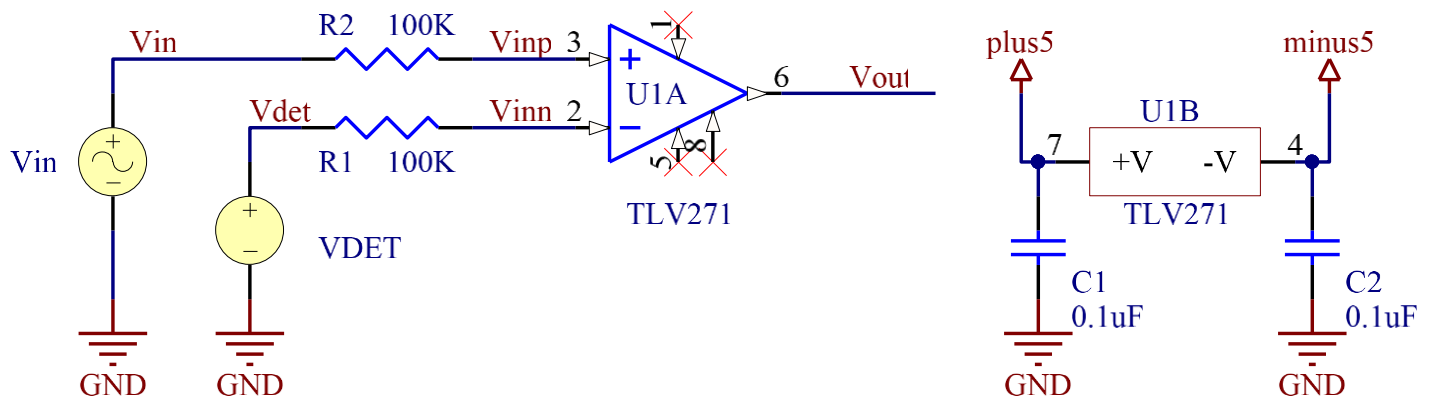
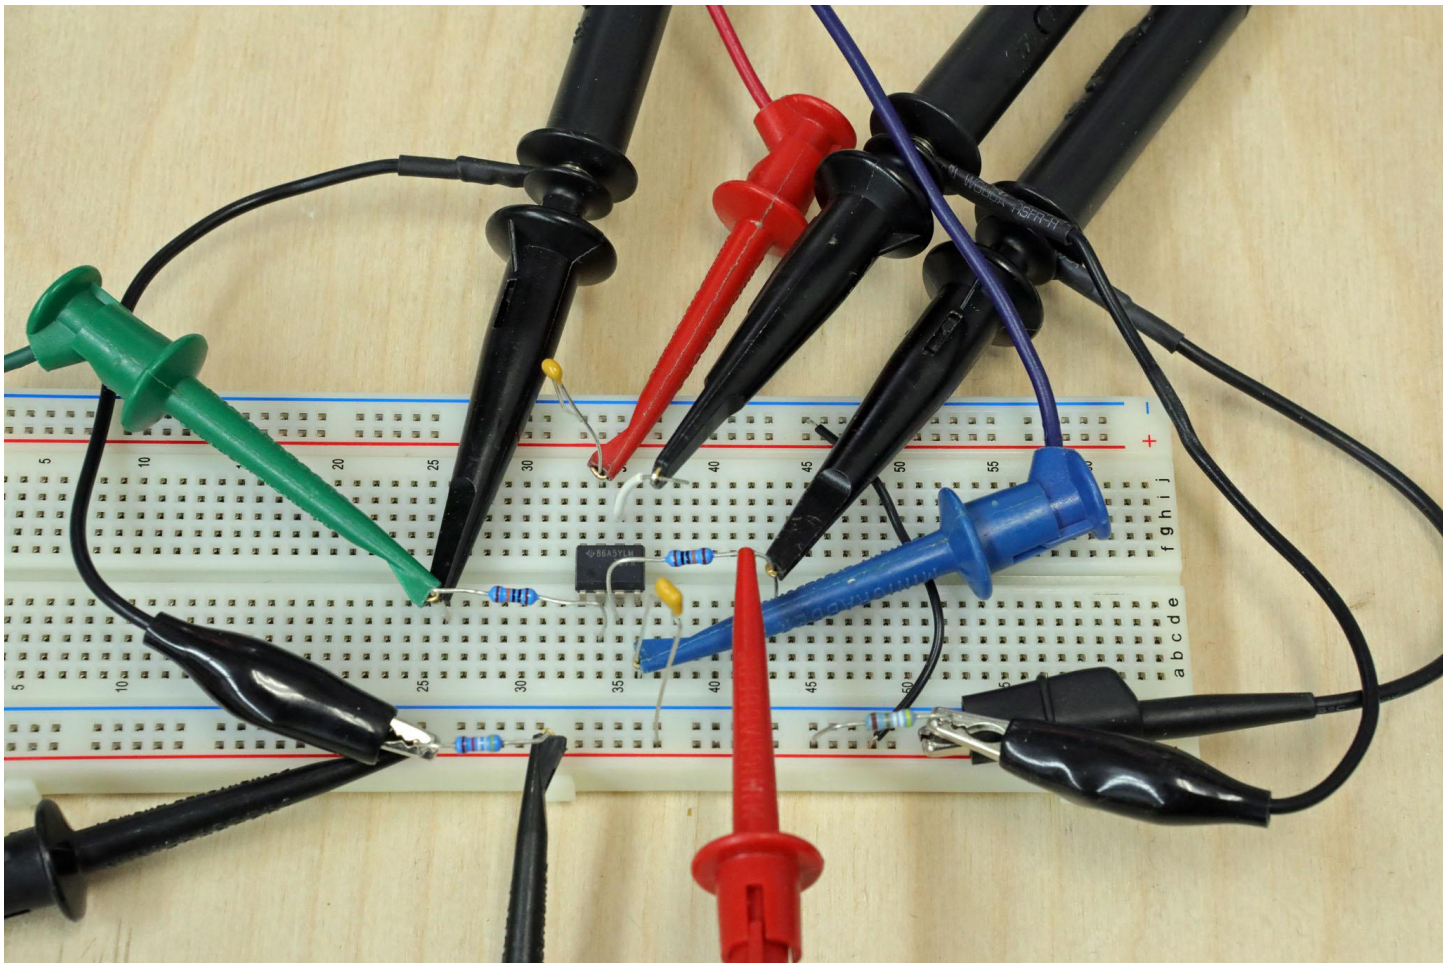

Figure 1: Comparator
Figure 2: Bread board example of the comparator circuit shown in Figure 1.
- Build the circuit in Fig. 1. There is a sample of this circuit on the bread board shown in Figure 2.